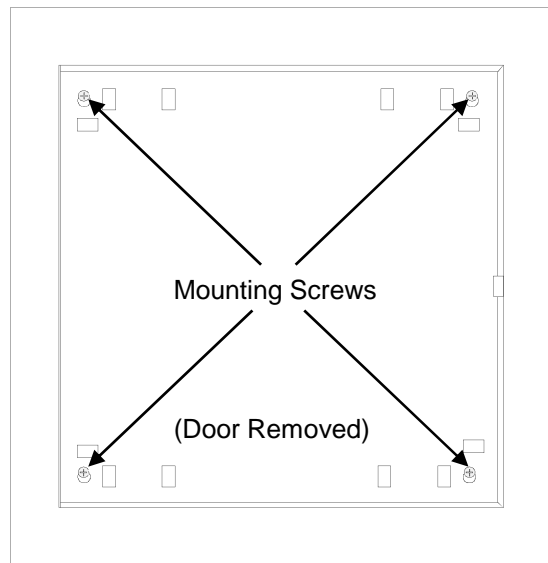

Figure 2
6.7 Use surface level on top and side of TDU to verify final alignment and tighten four (4) mounting screws. **See Fig. 2.**